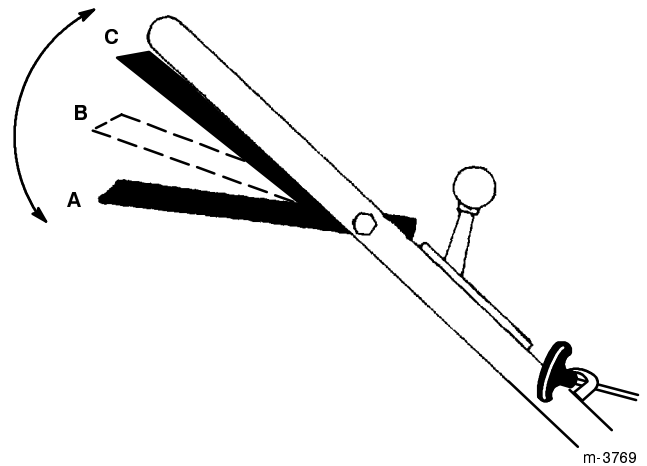

Figure 13
1. Have the blade control bail in the A position (Fig. 13).
2. Slide the blade control bail to the right and raise it to the B position to engage the blade (Fig. 13).
3. Squeeze the blade control bail against the handle to the C position to drive (Fig. 13).